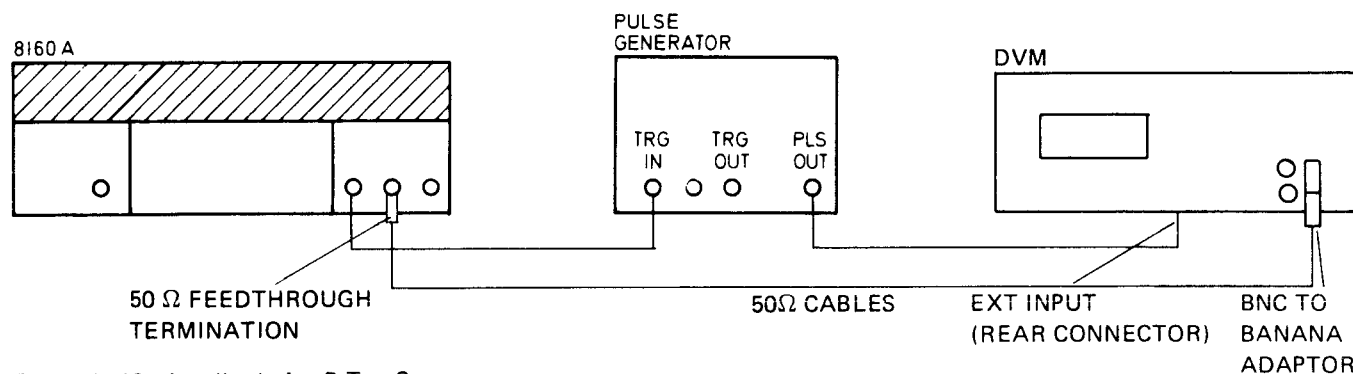

Figure 4-19. Amplitude A + B Test Set-up
1. Connect equipment as shown in fig. 4-19. The DVM takes samples from pulse top and bottom depending on trigger.